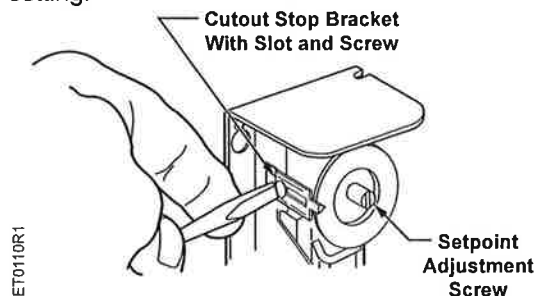

Figure 2. Setpoint Stop Screw.
3. Remove the cover from the control, and fasten the threaded flange of the strap to the control case using only three or four threads of the mounting screw. (See Figure 2.)
The setpoint adjustment screw (see Figure 2) permits screwdriver adjustment of the setpoint between 50°F and 200°F (10°C and 93°C).
3. Loosen the stop screw, slide the screw to the front of the control against the plastic stop behind the dial, and tighten the screw (see Figure 2). Sometimes, an exact stop setting is not possible, and the stop must be set to the closest stop corresponding to the required dial setting.